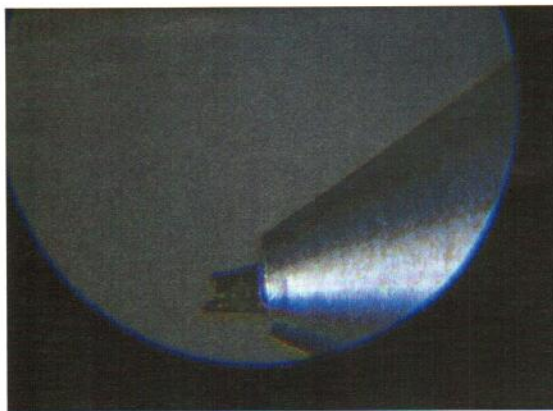

Figure 3 Corroded needle in nebulizer
- When the needle appears to be corroded or damaged. See Figure 3.